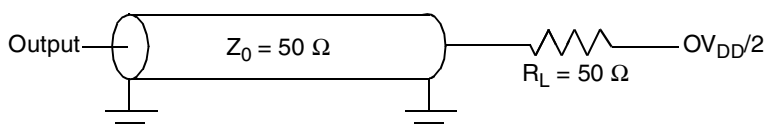

Figure 7. Alternate AC Test Load for the JTAG Interface
1. All outputs are measured from the midpoint voltage of the falling/rising edge of TCLK to the midpoint of the signal in question. The output timings are measured at the pins. All output timings assume a purely resistive 50- Ω load (see Figure 7). Time-of-flight delays must be added for trace lengths, vias, and connectors in the system.
Figure 7 provides the AC test load for TDO and the boundary-scan outputs of the MPC7448.